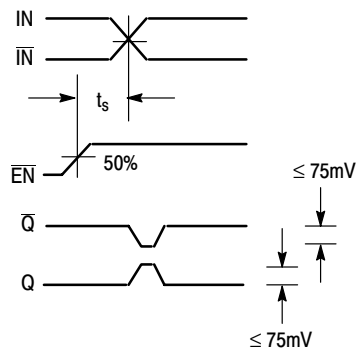

Figure 3. Setup Time
18. The setup time is the minimum time that $\overline{EN}$ must be asserted prior to the next transition of IN/ $\overline{IN}$ to prevent an output response greater than $\pm 75\text{ mV}$ to that IN/ $\overline{IN}$ transition (see Figure 3).